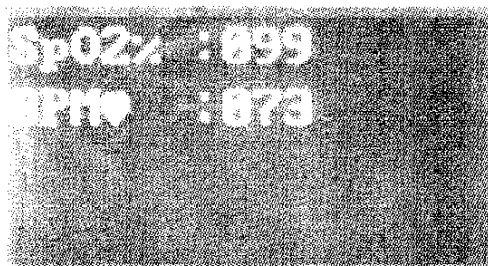

Figure 13
3. The SPO₂(measuring range: 35%~100%; accuracy: 70% to 100% ± 2 digits) and Pulse Rate(measuring range: 30bpm~240bpm; accuracy: ± 2 bpm or $\pm 2\%$) reading will display on the screen in few seconds.(see Figure 13)